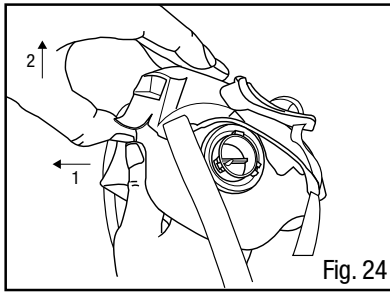

Fig. 24
1. To remove Head Harness Assembly & Valve Cover, first open the quick latch. Then place thumb beneath valve cover and fingers at the top. Pull the valve cover bottom away from facepiece with the thumb and then up to release the valve cover (Fig. 24).
1. Remove 3M™ Head Harness Assembly & Valve Cover 6582 by pulling away from facepiece (Fig. 24).